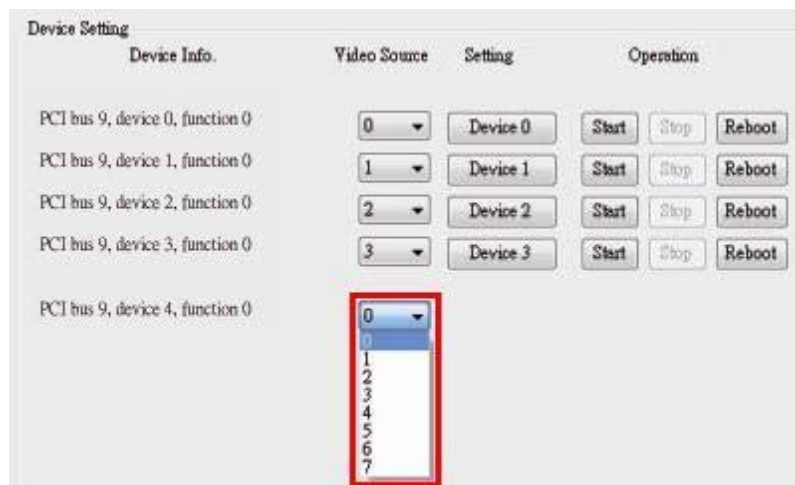

Figure 2-9: Select Transmitter Device for HDC-304E
**Step 4:** **This step is only required for the HDC-302E.** Select the transmitter bus (0 or 1) (**Figure 2-9**). For example, to view the video input source 1 on HDMI display device, select the transmitter bus 0. Please refer to the following table:
**Step 5:** This step is only required for the HDC-304E. Select the transmitter bus from 0 to 3 (Figure 2-9). For example, to view the video input source 1 on HDMI display device, select the transmitter bus 0. Please refer to the following table: